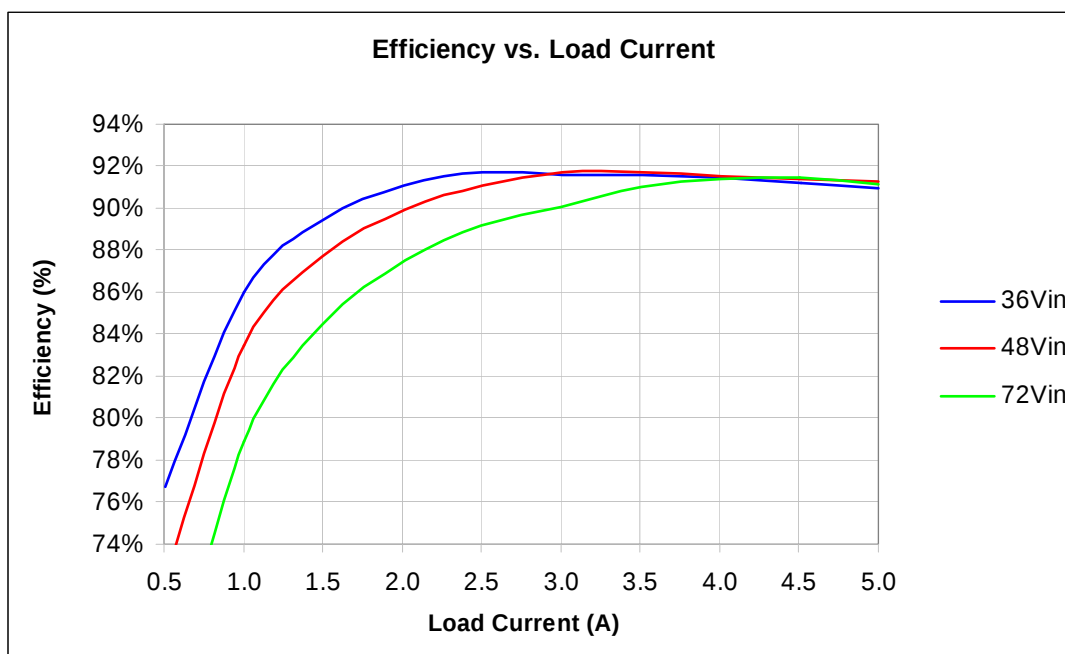
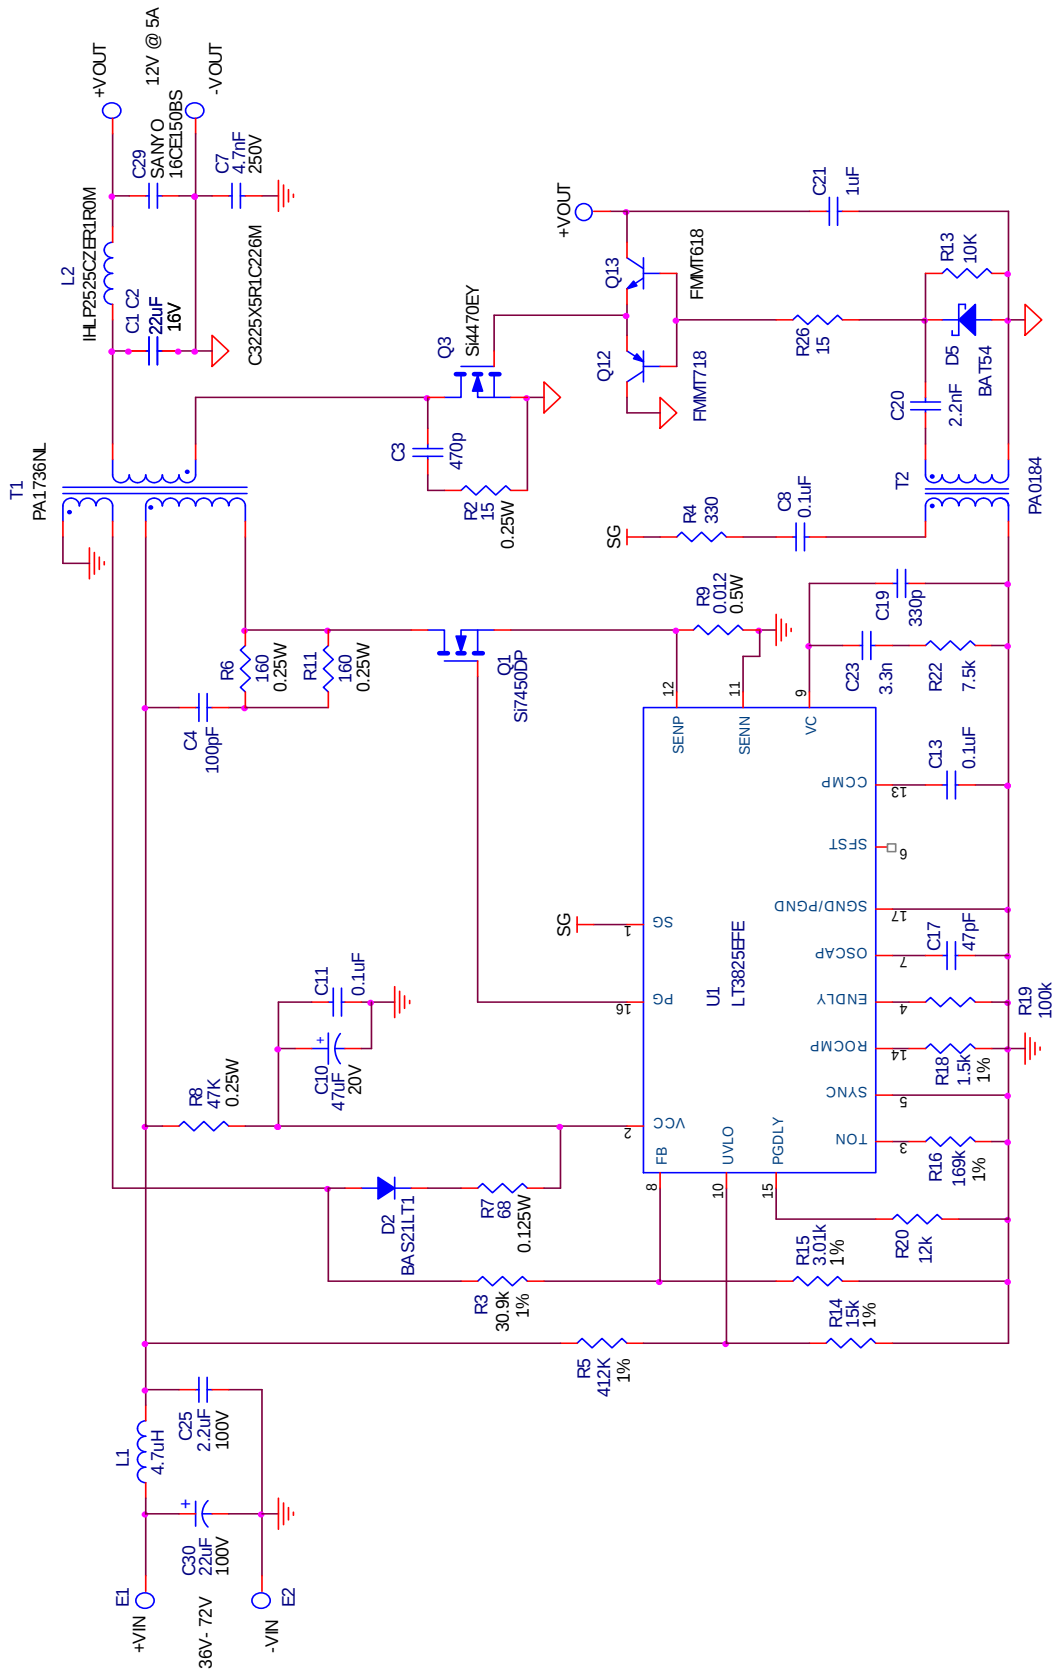

Figure 3. Efficiency
Figure 9. Simplified Schematic
The LT3825 controller exhibits a self-starting capability. When an input voltage is applied, a trickle charge resistor, R8, charges C10 (See Figure 9) to power Vcc. Then, the IC begins a controlled soft-start of the output voltage. As this voltage begins to rise, Vcc power is quickly taken over by T1, D2, and R7. When the soft-start period is over, the LT3825 then regulates output voltage by observing the pulses across the auxiliary winding of T1 during the flyback time. The Primary Gate drive (PG) and Synchronous Gate (SG) drive is then Pulse Width
Figures 3 through 8 are measured data for a typical DC894B-C. Figures 9 through 11 are schematics and bill of materials.